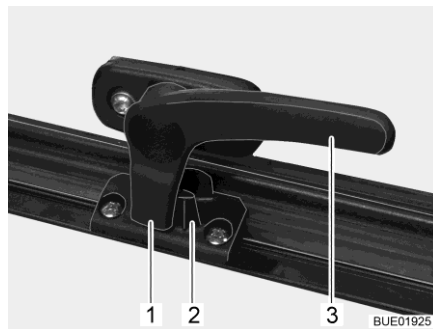

Fig. 13 Catch lever in "closed" position
- Turn the catch lever (Fig. 13,3) a quarter turn towards the centre of the window.
- Turn the catch lever (Fig. 13,3) a quarter turn towards the window frame. The locking catch (Fig. 13,1) is located on the inside of the window catch (Fig. 13,2).
- "Firmly closed" (Fig. 13).